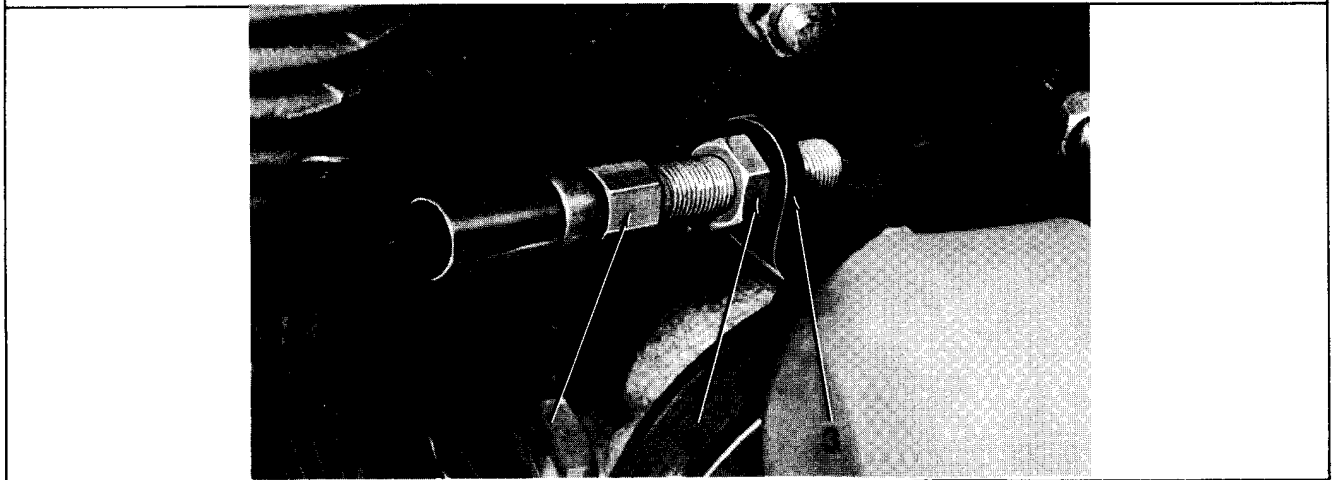

Figure 4-2. Adjusting Clutch
## ADJUSTING FOOT CLUTCH CONTROL (Figure 4-2)
## ADJUSTING HAND CLUTCH CONTROL (Figure 4-2)
Loosen control coil adjusting sleeve lock nut (2) (Figure 4-2) and turn control coil adjusting sleeve (1) all the way into bracket. Remove chain housing cover, loosen clutch push rod screw lock nut (4) and turn screw (5) in (clockwise) to remove lever (8) to the rear, or outward (counterclockwise) to move end of lever forward. When 1/2 inch clearance between lever and starter motor has been attained, tighten lock nut (4) and reinstall chain housing cover.
If the clutch slips after adjusting clutch controls, increase spring tension on the three clutch spring guide stud nuts (6, Figure 4-2). Remove chain housing cover and tighten all three nuts one-half turn at a time until clutch holds. Test after each half turn by cranking the engine. Usually a clutch that holds without noticeable slipping when cranking the engine will hold under normal road conditions. Do not increase spring tension any more than is necessary to make clutch hold.